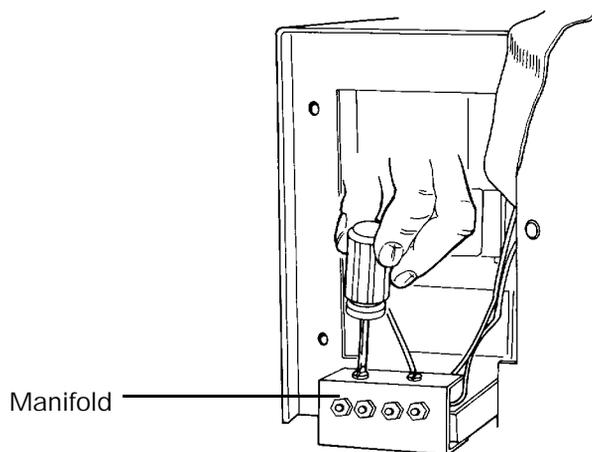

Figure 5-5 Removing Binder-head Screws on the Manifold
Figure 5-5 illustrates binder-head screw removal.
1. Remove the two binder-head screws and star washers from the top of the fluid manifold (Figure 5-5).
6. Install the flow cell assembly back onto the Waters 486 Detector by feeding the manifold that holds the fluid connectors through the slot on the bracket. Reinstall the fluid manifold and tighten the two binder-head screws (reverse of Figure 5-5).